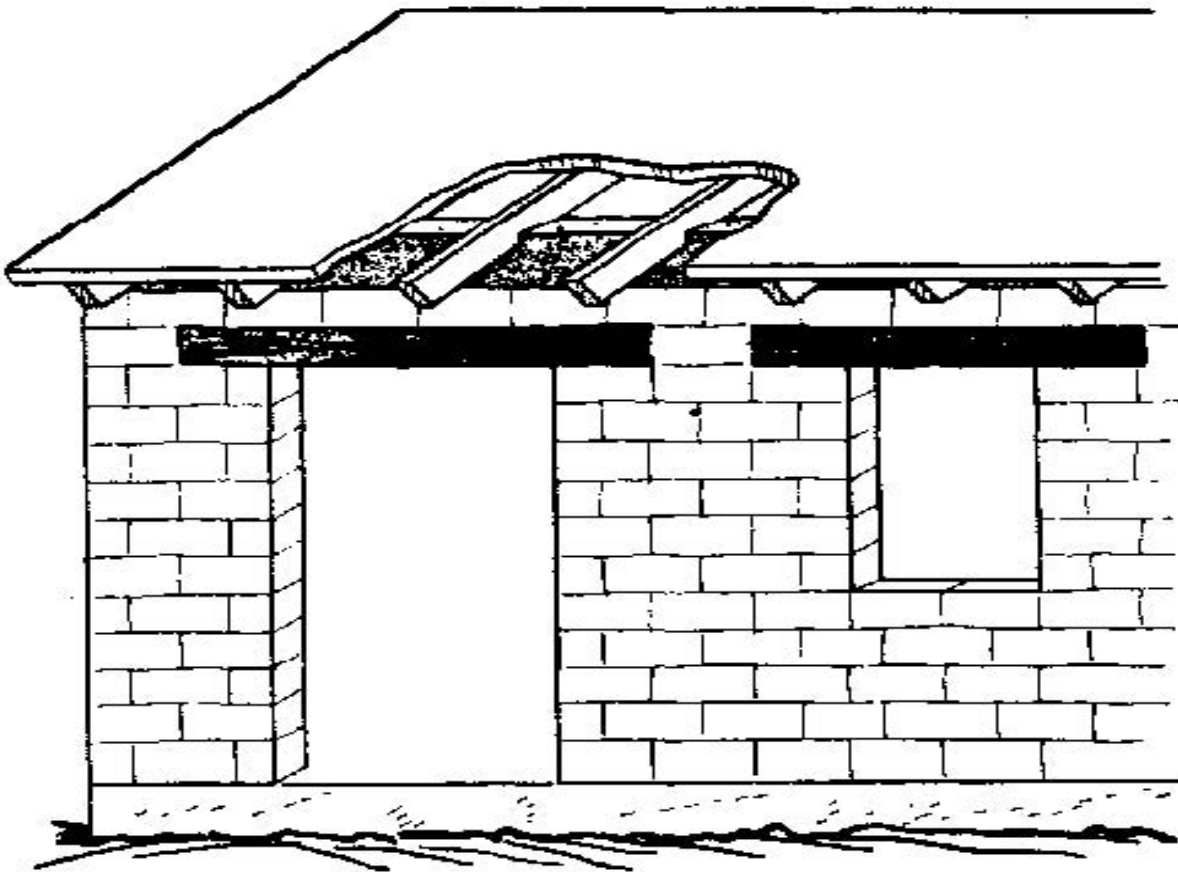
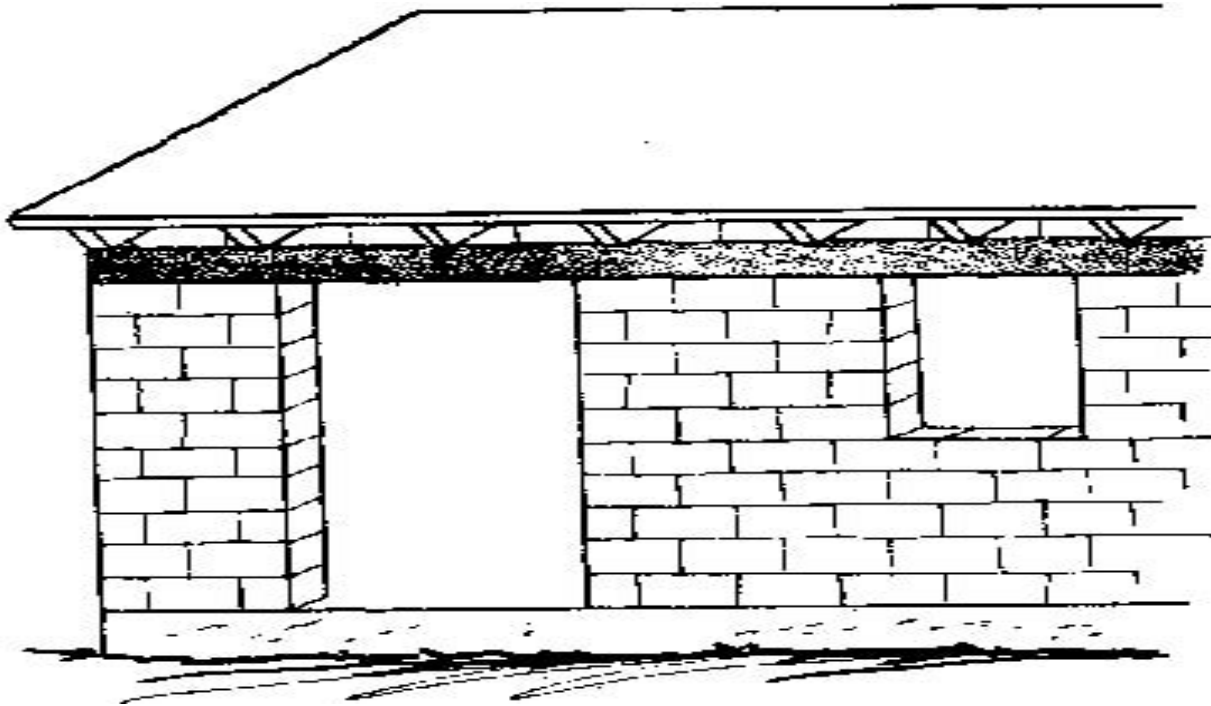
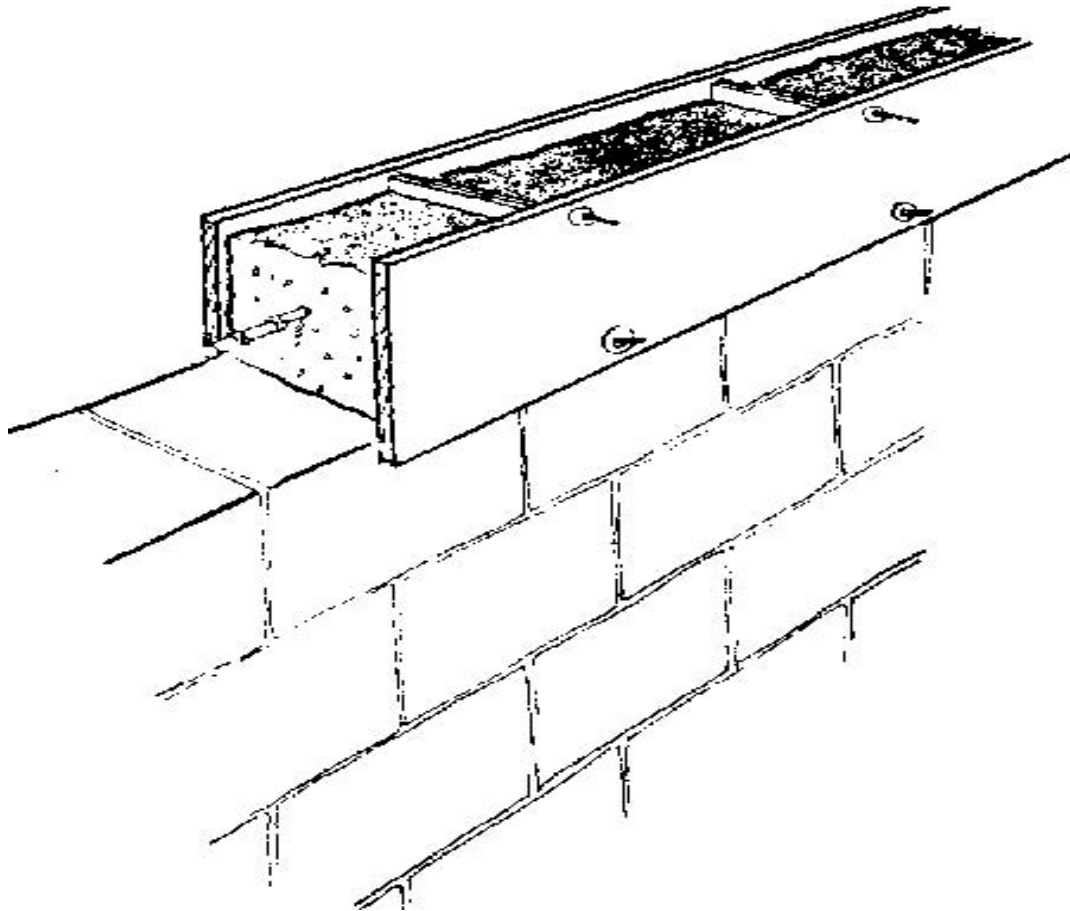

Figure 68. This shows how timber lintels are used above doors and windows. Above the lintels (in the cut out section) is shown a concrete bond beam.
Figure 70. This shows a combination bond beam and lintel, made from reinforced concrete, which can be used on low-ceiling houses.
Figure 71. Forms like this can be used to pour concrete bond beams and lintels in place in the wall.
*LINTELS* - The weakest spot in any house is over the doors and windows. A beam or other reinforcing cross piece called a lintel should always be used above these openings as shown in Figure 68. The lintel must be strong enough to support construction loads as well as the weight of the blocks above. A large timber or a
*BOND BEAMS* - Bond beams (sometimes called tie beams or perimeter beams) are used to reinforce the top of the earth wall against loads from the roof. (See Figure 68.) The beam distributes the roof load and ties the top of the walls together. If a low-ceiling house is being built, the bond beam can also serve as the lintel as shown in Figure 70. Bond beams should be the same thickness as the wall and preferably be tied to the wall with bolts or some other type of projection. The beams may either be wood or reinforced concrete. Wooden bond beams should be placed over a thin layer of mortar on top of the last course of blocks. Concrete bond beams (and lintels also) can be poured in place on top of the completed earth wall as shown in Figure 71. Make the forms strong so they will not bulge. If you are using a timber frame roof, set bolts in the fresh concrete for holding the roof down.